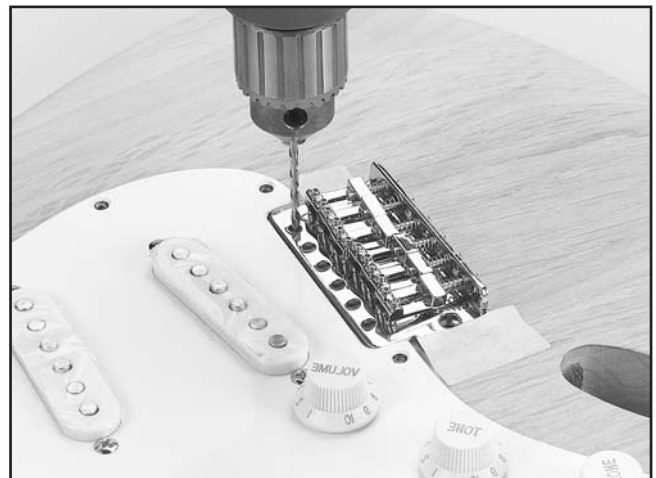

Figure 22. Drilling the bridge mounting holes.
6. Using a $\frac{3}{32}$ " drill bit, drill $\frac{1}{2}$ " deep holes straight through the six holes in the tremolo bridge (see **Figure 22**).